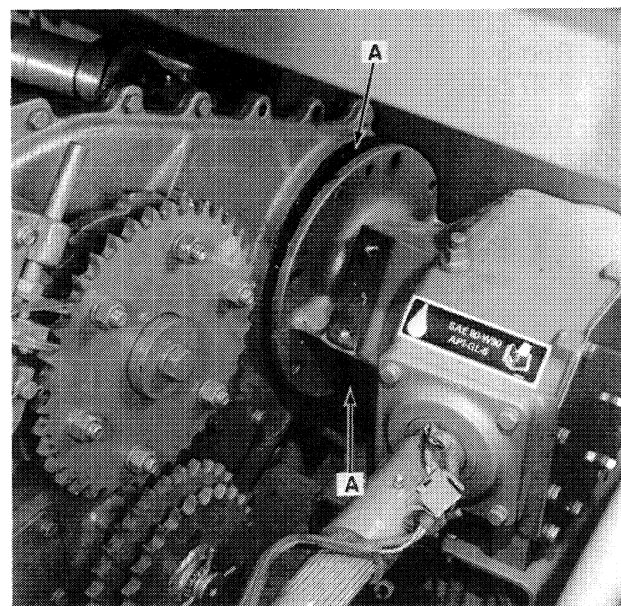

FIGURE 2-32
13. Separate the reversing gearbox from the bevel gearbox as shown in Figure 2-32, until gearbox aligning pins, A, are free.